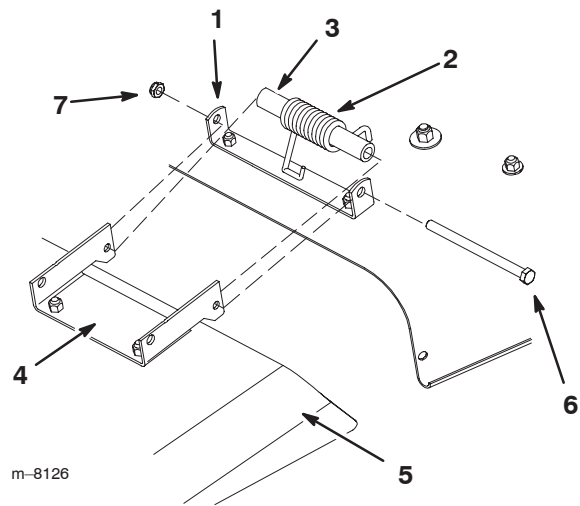

Figure 47
2. Align the grass deflector with the holes in the brackets and the spring and spacer straight ends in the space between the brackets and above the deflector (Fig. 47).
3. Place the spring and spacer so that the hooked ends of the spring are pointing down, with one end contacting on the mower deck and the other over the deflector (Fig. 47).
1. Remove the locknut, bolt, spacer, and spring holding the deflector to the mower brackets (Fig. 47). Remove the damaged or worn grass deflector.